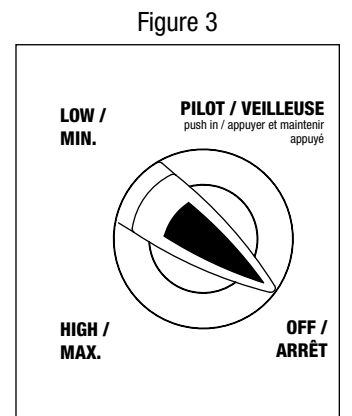

Figure 3
2. Make sure control knob is in "OFF" position. (Figure 3)
1. Control knob must be in the "OFF" position. (Figure 3)